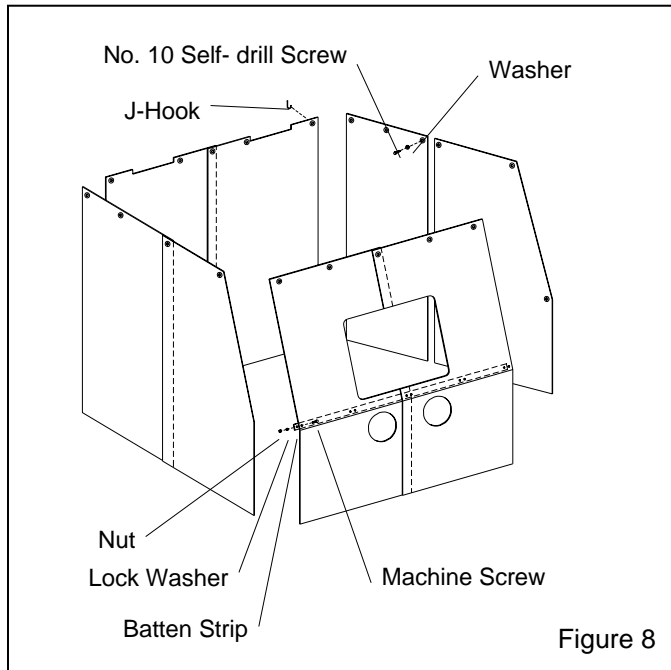

Figure 8
### **3.2 Curtain Installation, Figure 8**
**3.2.1** Match the curtains to the corresponding wall and door as shown in Figure 8. Hook the curtains to the J-Hooks welded along the top of the front, back, and side walls. Cut openings for the hoses on the lower left rear wall.
**3.2.3** For front walls, place the batten strip over the curtain, and clamp it in position on the front slope above the break as shown in Figure 8. Match drill .187" (3/16") diameter holes through the rubber and cabinet front at each batten hole. To install the batten insert #10-24 x 1" round head machine screws through the cabinet front, curtain and batten. Install lock washers and nuts from inside the cabinet and tighten securely.
**5.3.2** If media does not flow smoothly, loosen the locking nut, and adjust the metering screw until the upper holes in the metering stem are closed-off, and the lower holes are fully open. See Figure 8. This adjustment is a starting point.